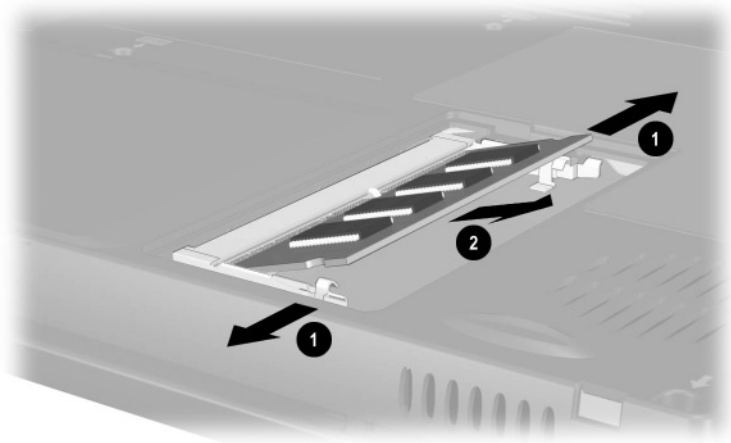

Figure 5-13. Removing a Memory Expansion Board
5. Pull away the plastic retention clips on each side of the memory expansion board ❶. The memory expansion board tilts upward (Figure 5-13).
6. Lift the edge of the memory expansion board and slide it gently out of the memory expansion slot at a 45-degree angle ❷.